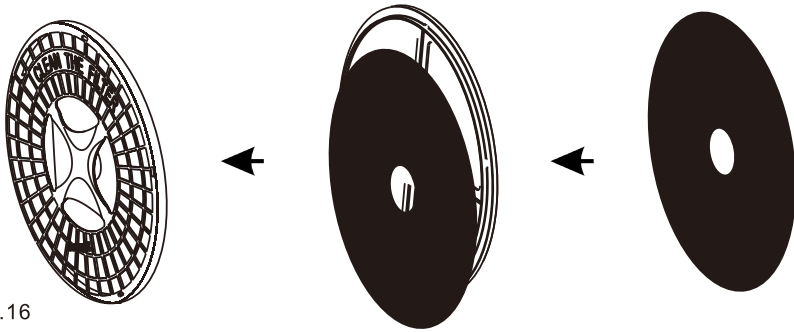

Fig. 16
- After cleaning the Lint Filter, you must re-assemble the parts in the correct sequence ( Lint Filter - Exhaust Filter - Exhaust Vent Shroud), aligning the recesses in the centre with the projection in the centre of the Tumble Dryer Drum. Make sure that the Filter Assembly is firmly inserted (Fig. 16).